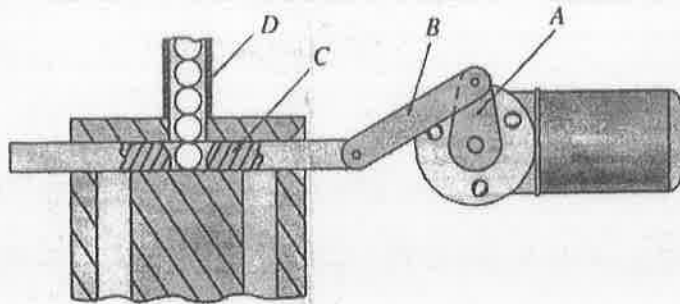

Figure 8
16. (a) The mechanism shown in Figure 8 has been taken from a feed device for an automated ball bearing assembly machine. An electric motor is attached to link A as shown. Carefully examine the configuration of the components in the mechanism. Then answer the following leading questions to gain insight into the operation of the mechanism.